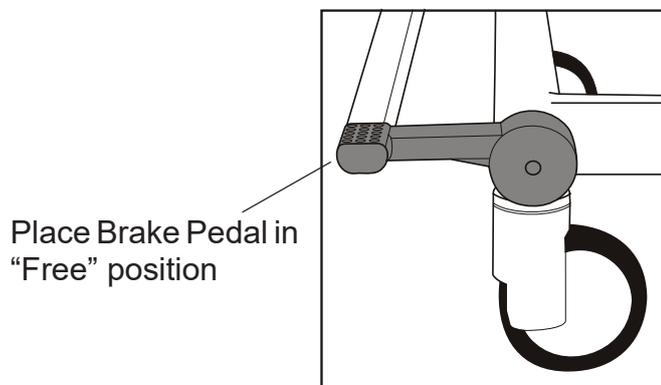

Fig. 9 - Free Position
2. Check that the brakes are unlocked and the brake pedal is in the “Free” position. (See Fig. 9)